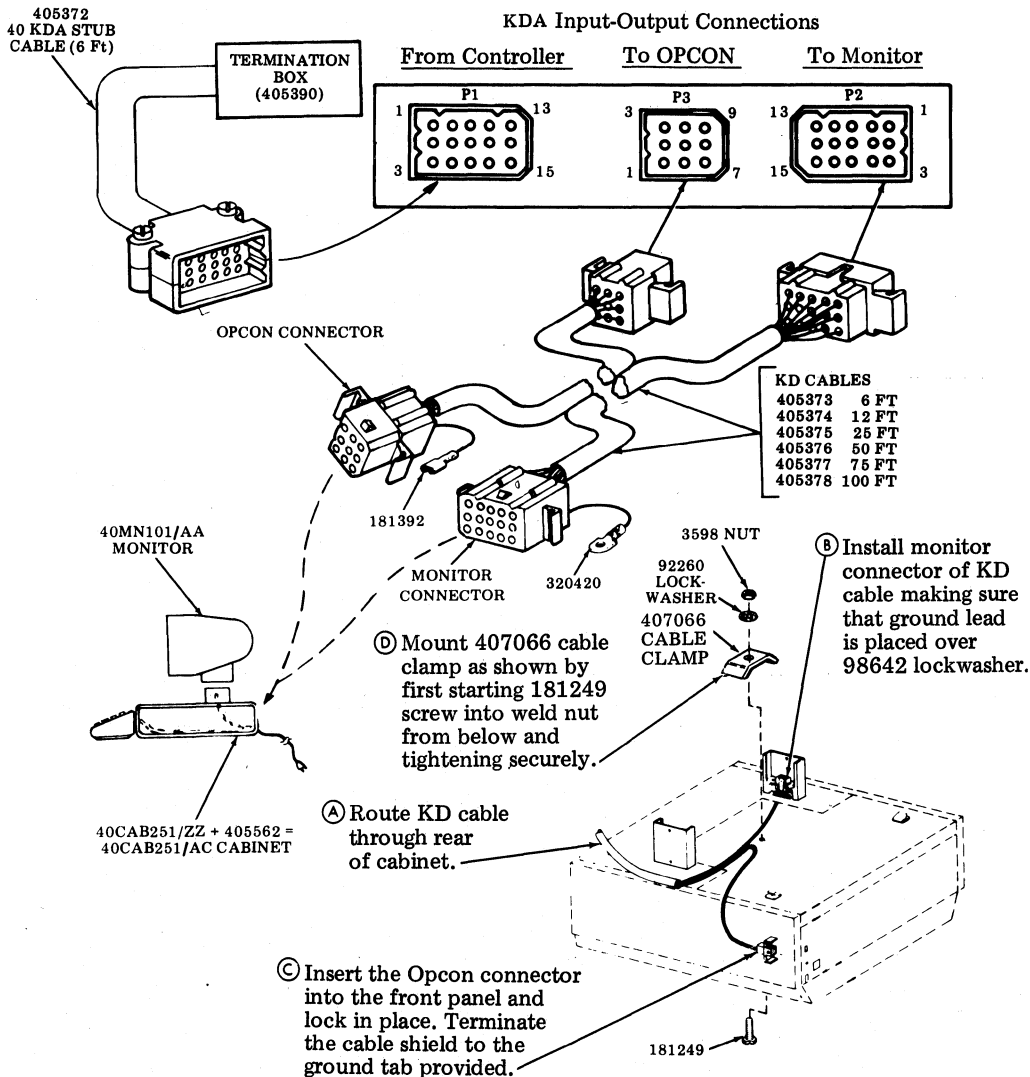

Fig. 13—Example of KDA Connection For Attached Style KD
4.12 Connection of the KDA outside the monitor support cabinet of an attached KD (Fig. 13); plug the 405372 stub cable ① directly to P1 of the KDA. Plug the two connectors of the KDA to KD cable ⑥ to P2 and P3 of the KDA. Follow steps ① through ④ for cable mounting at the attached KD. Connection of the KDA inside the monitor support cabinet is described in Specification 50853S.